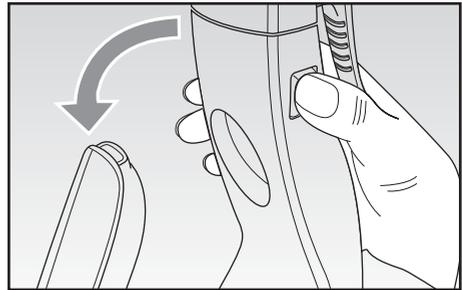

Fig. 7
- By holding the handle of the appliance body (K), press the unlocking buttons (L) and remove the handheld vacuum cleaner complete with power cord (Fig. 7).